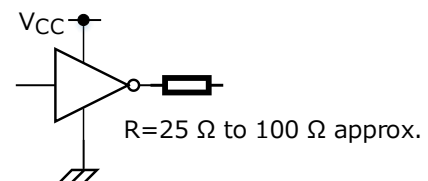
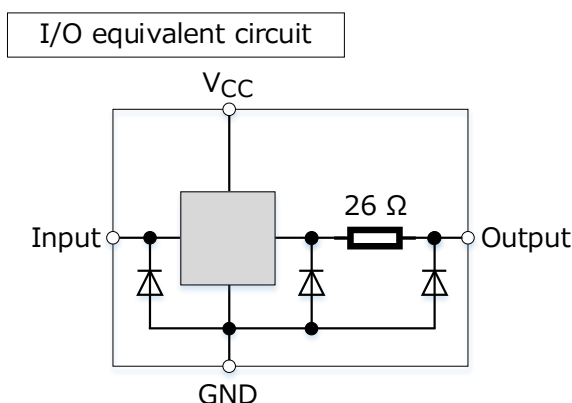

Figure 4.3 Damping resistor
Figure 4.4 CMOS ICs with an internal damping resistor
- Add a damping resistor to the output of used gates (Figure 4.3). It is necessary to adjust the value of the damping resistor by checking the output waveform. (* Toshiba provides CMOS ICs with an internal damping resistor (Figure 4.4), which help reduce not only switching noise but also parts count.)